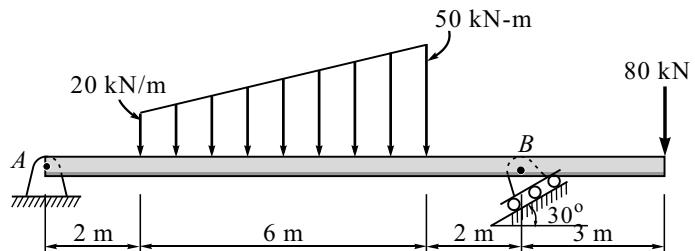

Fig. 3.25(a)
Find the support reactions at A and B for the beam loaded as shown in Fig. 3.25(a).
- (i) Consider the FBD of Beam AB [Fig. 3.25(b)].